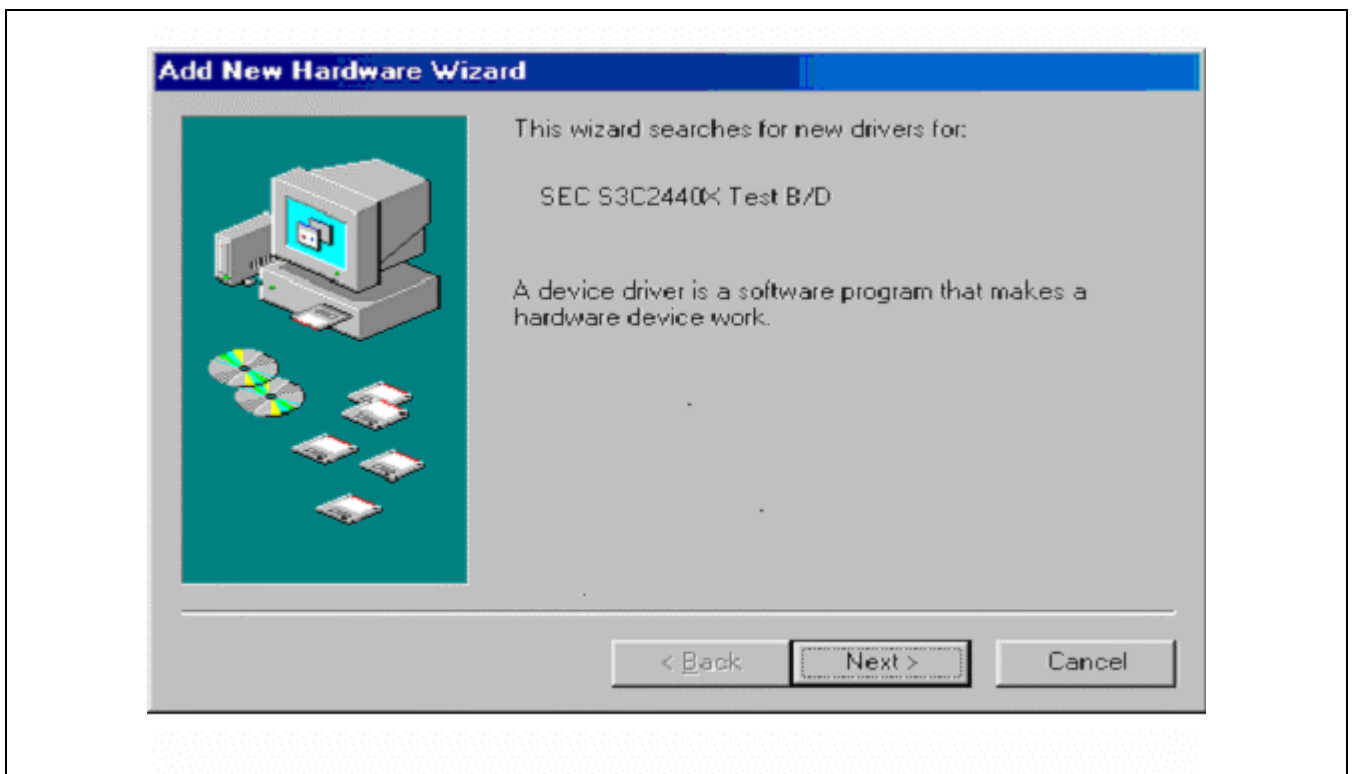

Figure 2-3. Add New Hardware Wizard (Window98)
5. Connect the SMDK2440X board with the PC (See Figure 2-3).